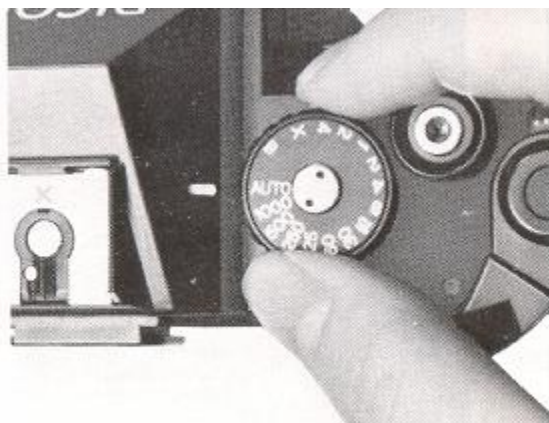

Fig. 21
1. Press Automatic Exposure Lock Button (9) and move Shutter Speed Dial (8) off "AUTO" (Fig. 21). Then, set the desired shutter speed opposite Shutter Speed Index Line (7) by rotating Shutter Speed Dial (8). Shutter Speed Indicator (42) in the viewfinder indicates the shutter speed you just set.
2. Move Film Advance Lever (13) to "ON" position.
3. Hold your camera, look at your subject through the Viewfinder Eyepiece (24) and press Shutter Release Button (11) lightly half way down.